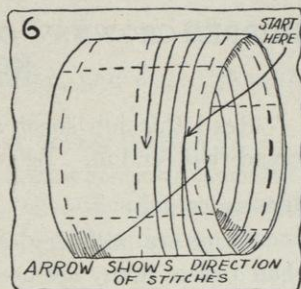

FIG. 6.
- Set foundation crown on brim and pin it the desired height (see Job 39, Figure 6 *A*, page 157).
- Sew foundation crown to headsize of brim with backstitches (see Figure 6 *B* of Job 39, page 157).
- (4) Start to stitch $\frac{1}{8}$ inch away from the upper edge, and continue to stitch over the beginning of the stitching for $\frac{1}{2}$ inch, then gradually run off to the second row, and then continue to stitch around and around with even rows, keeping an even distance apart until the bottom of the side crown is reached (see Figure 6). **Be careful not to draw side crown in with stitching.**